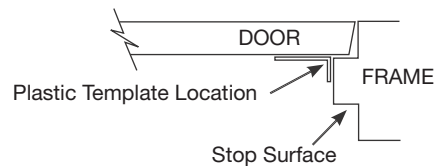

Figure 11
1. Bar must be cut to size if gap between bar and stop surface is less than 2-7/8" (73mm). See table below and Figures 11 and 12.